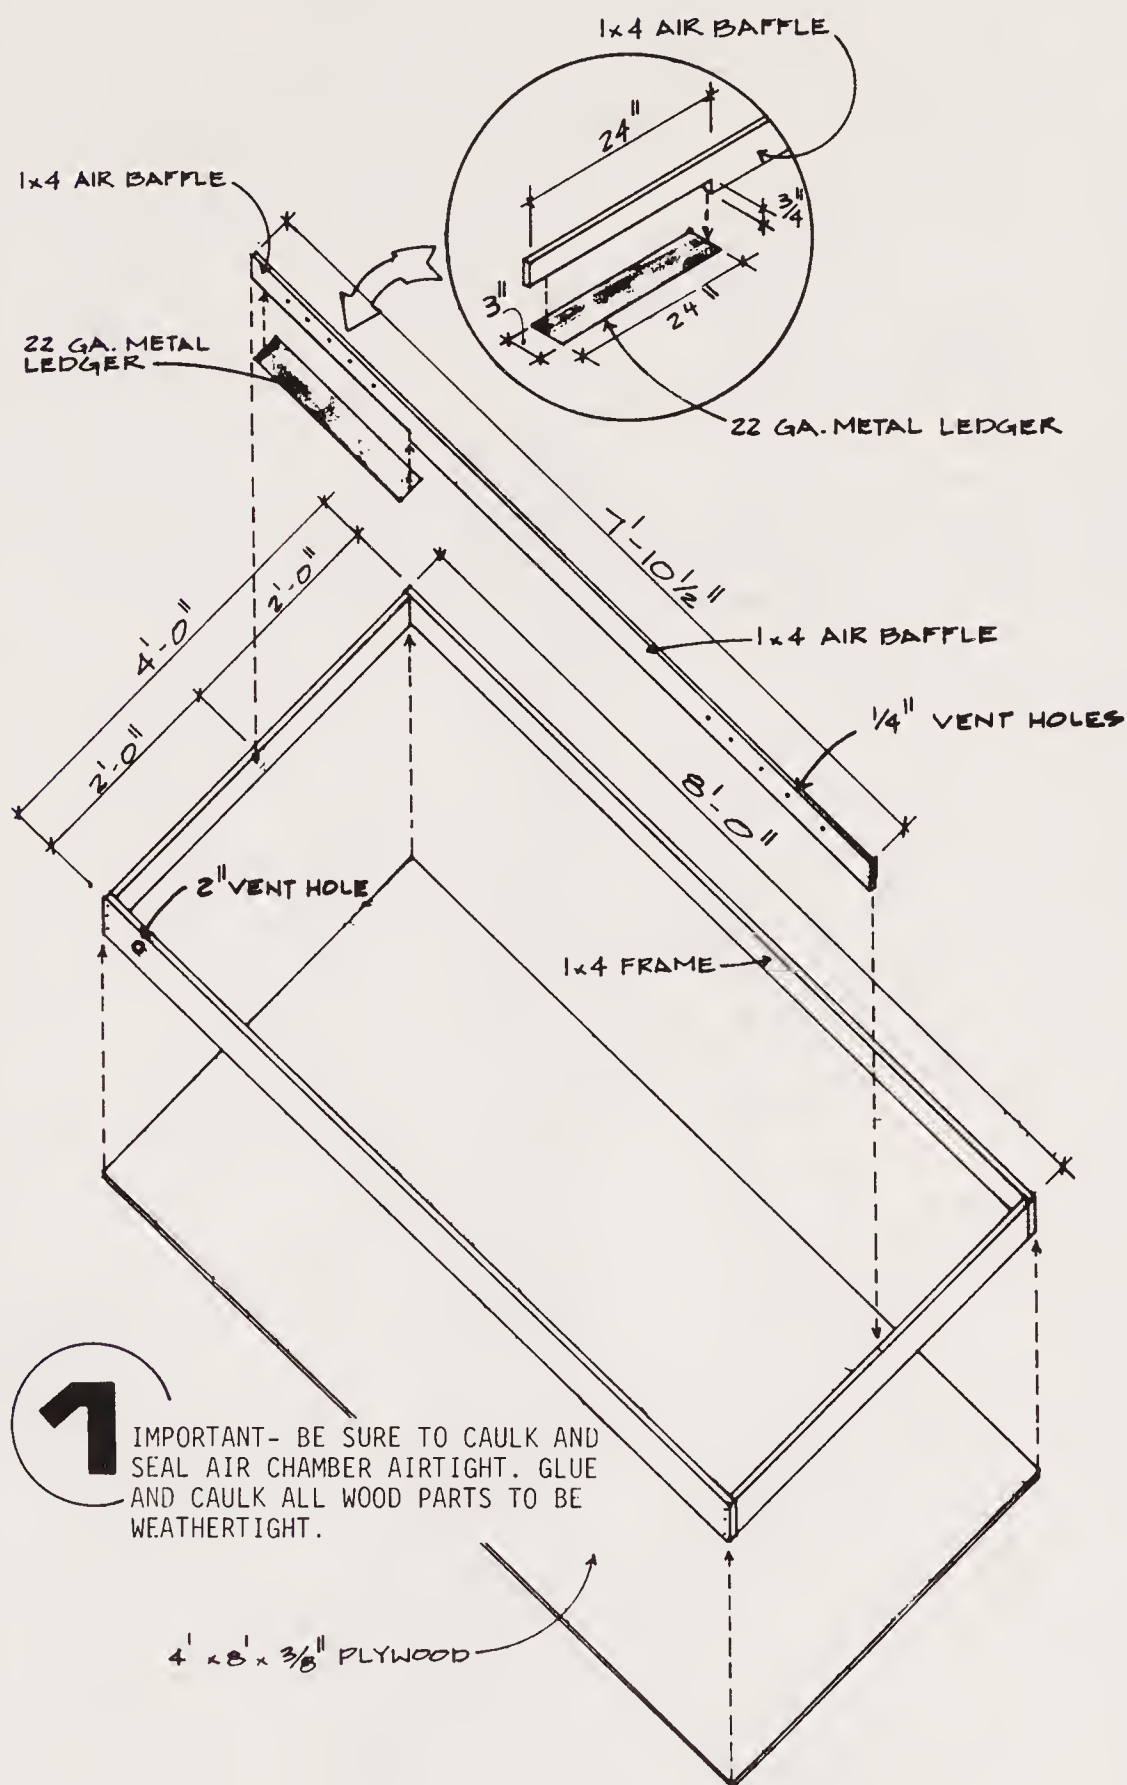

Fig. 2-137. Details of solar system (courtesy of Office of Human Concern written by Joel Davidson and plans by Albert Skiles).
**Step Two.** Cut 1 x 4 lumber to length (Fig. 2-137).